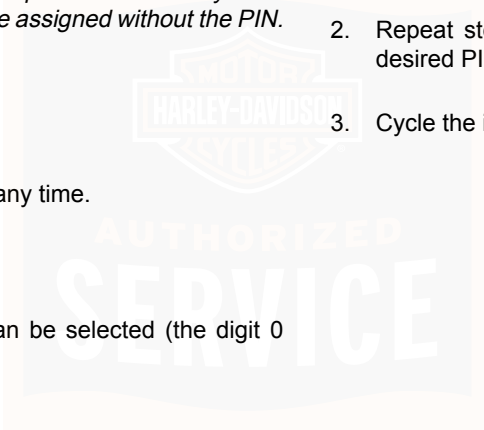

Figure 18. Change PIN Screen
3. See Figure 18. The **Change PIN** screen is displayed.